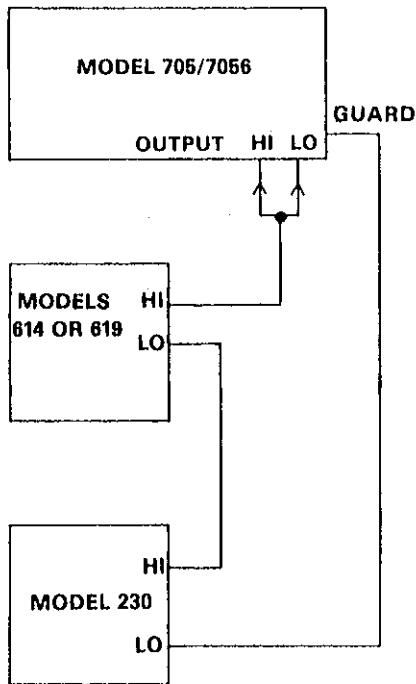

Figure 6. Model 7056 Isolation Test In Model 705
- A. This test measures the common mode input isolation which is the leakage resistance between the signal lines and power line ground. Figure 6 shows the test setup for this test.
- C. Set up the test circuit shown in Figure 6.